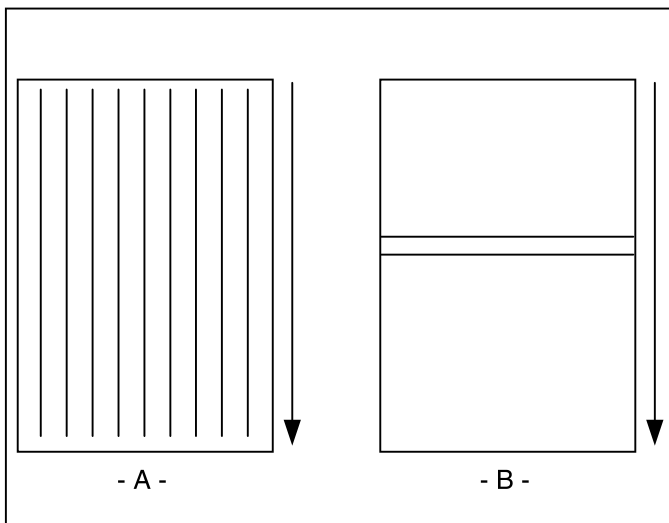

Fig. 48
3. Straight waves in output (Figure 48 A).
4. Indent waves in output after pull rollers (Figure 48 B).